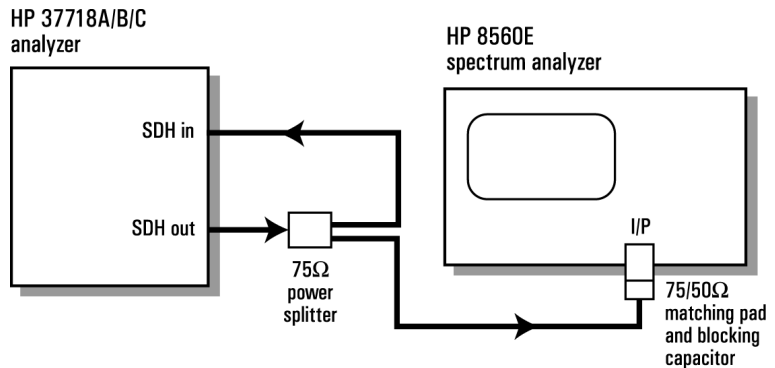

Figure 3-9 STM-0e Electrical Transmit/Receive Test Setup
- 3 Connect up the equipment as shown in Figure 3-9.